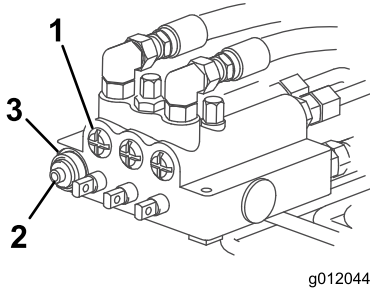

Figure 19
1. Remove the jam nut securing the plug assembly in the lift control valve (Figure 19). Remove the plug and the washers from the lift control valve. Note the order of the components during removal.